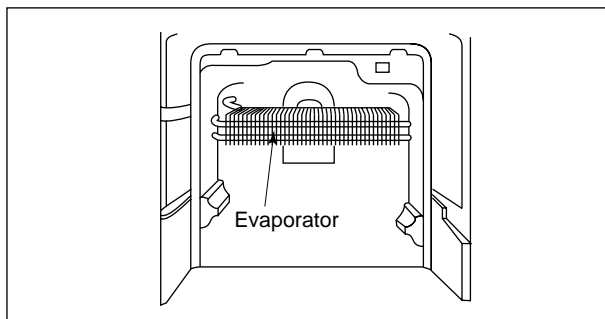

Fig. A-24
3. As shown in Fig. A-24, bend the removed Evaporator horizontally so that Defrost heater can be replaced easily.